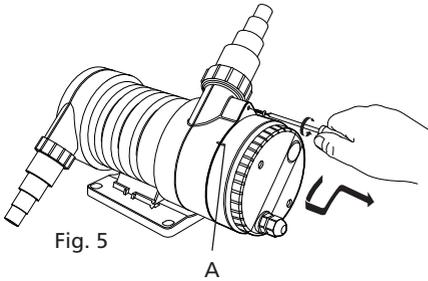

Fig. 5
i) Remove the screw securing the electrical head (See fig 5). Turn the head anti-clockwise, pull out and then turn clockwise. The head should then pull gently away from the main body.
v) Re-assemble the head to the body. Using the alignment marks 'A' (see fig 5), press together while rotating anticlockwise allowing to slot together, then rotating clockwise. The screw boss should realign, allowing the retention screw to be re-fitted.